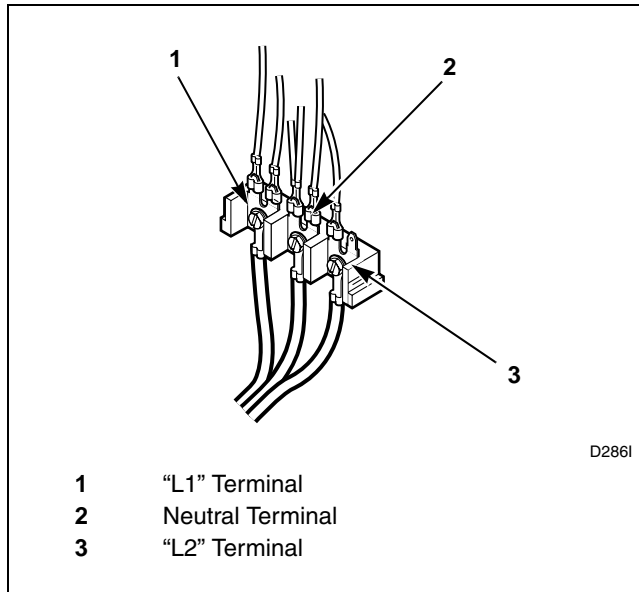

Figure 14
4. Use the three screws from the accessories bag to attach the power cord wires to the terminal block. Refer to *Figure 14*.